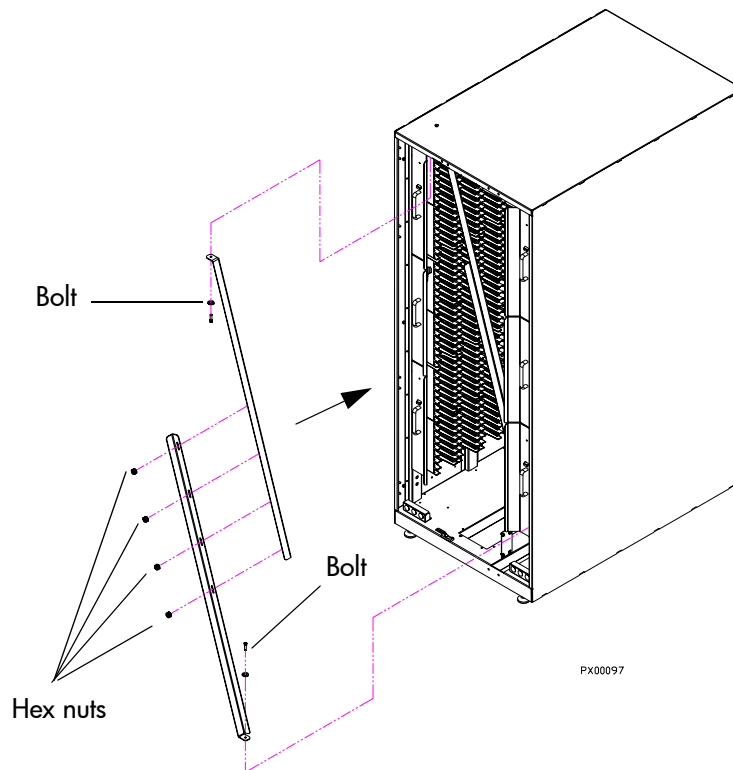

Figure 43: Installing the internal library frame restraint
7. Locate the two sheet metal pieces that form the internal library frame restraint and insert them as shown in Figure 43.